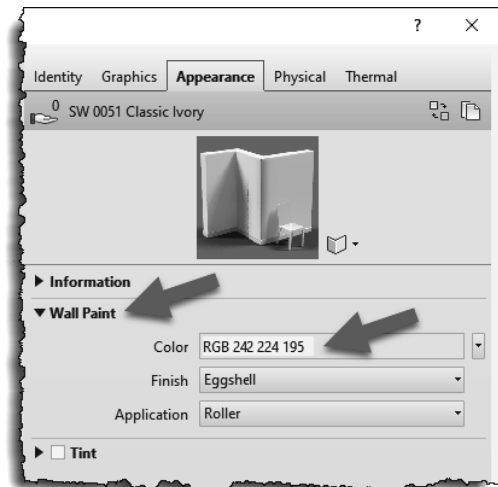

FIGURE 4-3.16 Final appearance settings
Now you can adjust the specific paint information for your *Material* (Figure 4-3.16). Keep in mind that this *Appearance* asset may be applied to other *Materials* in your project. For example, the asset could be applied to a CMU wall or metal railing. Any adjustments made to the asset are instantly applied to all *Materials* which use it.
51. Change the RGB numbers as follows (Figure 4-3.16):